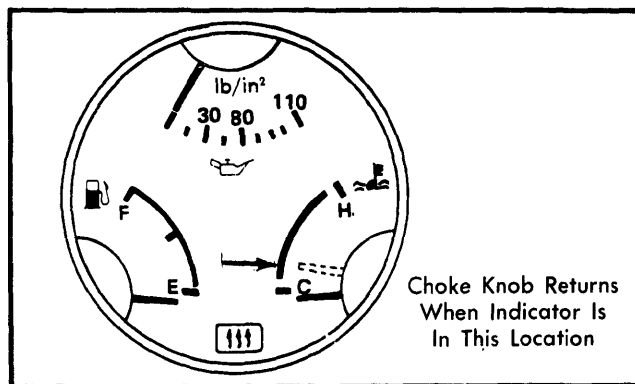

Fig. 2 Engine Temperature Indication for Release of Choke Knob
- 2) Connect tachometer to engine. Start engine and set engine speed at 2000 RPM with choke knob. With engine running, choke knob should automatically return when engine temperature indicator is in position shown in Fig. 2.